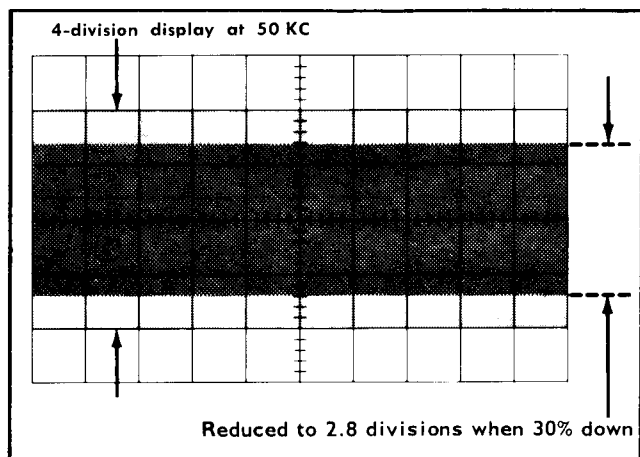

Fig. 5-8. Typical crt display when checking vertical frequency response.
- e. Without changing the output amplitude, increase the output frequency until the deflection is reduced to 2.8 divisions (see Fig. 5-8).
- j. Without changing the output amplitude, increase the output frequency until the deflection is reduced to 2.8 divisions (see Fig. 5-8).
- o. Without changing the output amplitude, increase the output frequency until the deflection is reduced to 2.8 divisions (see Fig. 5-8).
- t. Without changing the output amplitude, increase the output frequency until the deflection is reduced to 2.8 divisions (see Fig. 5-8).
- y. Without changing the output amplitude, increase the output frequency until the deflection is reduced to 2.8 divisions (see Fig. 5-8).
- ad. Without changing the output amplitude, increase the output frequency until the deflection is reduced to 2.8 divisions (see Fig. 5-8).